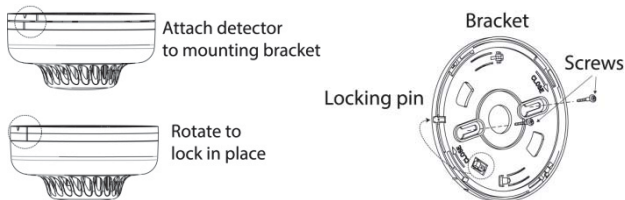

Figure 7: Smoke and heat detector installation
To install the detector (see Figures 7 & 8)
2. Remove the locking pin securing the mounting bracket to the unit (see Figure 7).
6. Using screws (supplied) attach the bracket to the wall as shown in Figure 7.
- Line up the side slot of the bracket and the detector. Push the detector onto the mounting bracket and turn it clockwise to secure it into place. Insert the locking pin in order to secure the mounting bracket to the detector (see Figure 7).